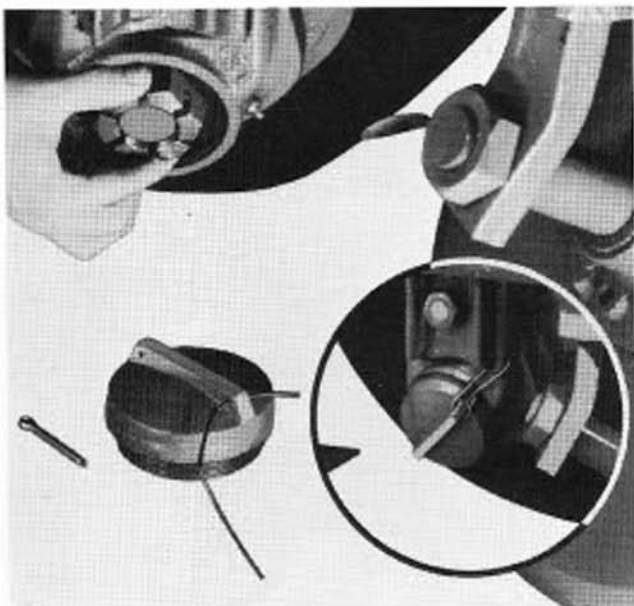
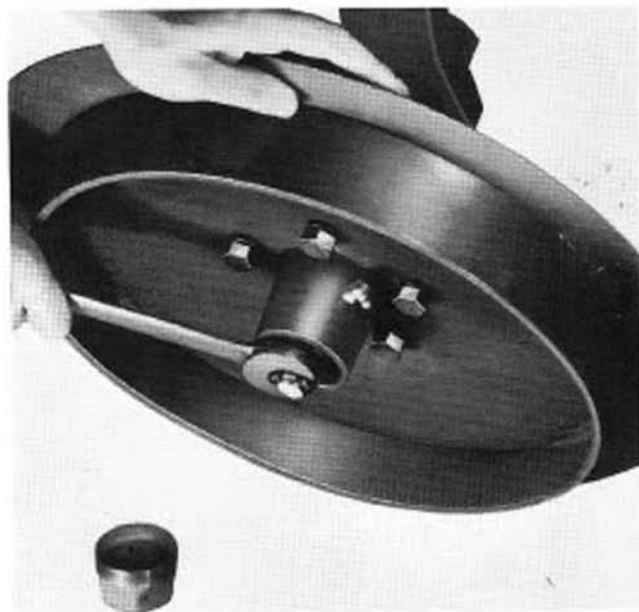

Figure 9
Figure 10
**Bearing Adjustments:** The tapered bearings in the disc hub should be checked occasionally and adjusted if necessary. Remove the lock wire, dust cap, and cotter pin, as shown in Figure 9. Turn the castellated nut until reasonably tight, then back it off 1/16 turn. Secure the nut with the cotter pin. Replace and lock-wire the dust cap as shown in the insert, Figure 9. The furrow wheel bearing adjustment is made in the same manner. See Figure 10.